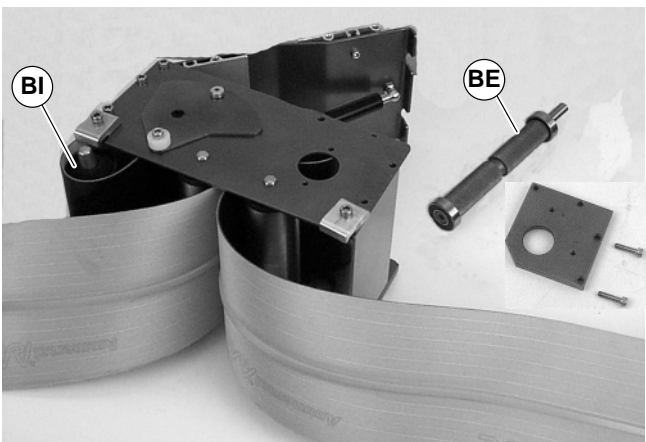

Figure 29
- For 127 mm or wider conveyor, depress both sides of spring-loaded shaft and remove pulley (BI of Figure 29).